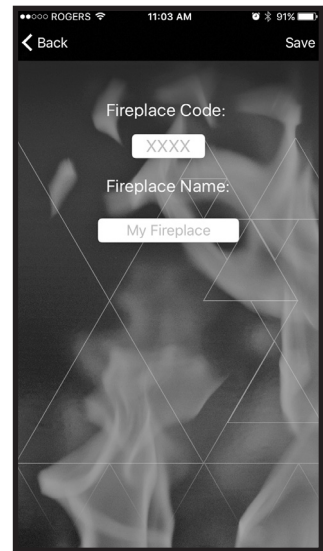

Figure 21: Add-edit program fields.
5. Enter the PIN number and a user defined description of the fireplace (Figure 21).